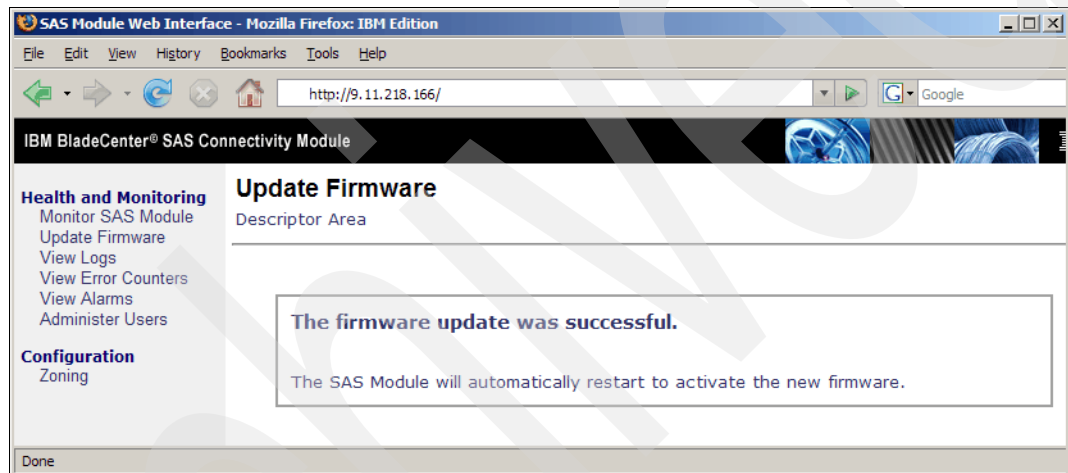

Figure 20-6 SAS Connectivity Module - Update successful
5. Click **OK** or **Cancel**. If the installation of the new firmware file is successful, an installation confirmation window opens, as shown in Figure 20-6. If there are errors during the installation, an error message window opens.